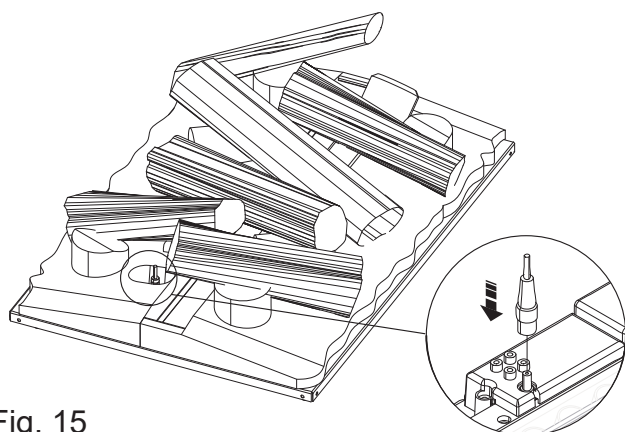

Fig. 15
4. Locate the DC jack under the small log and connect it to the corresponding DC jack located on the product through the hole in the fuel bed (Fig.15).